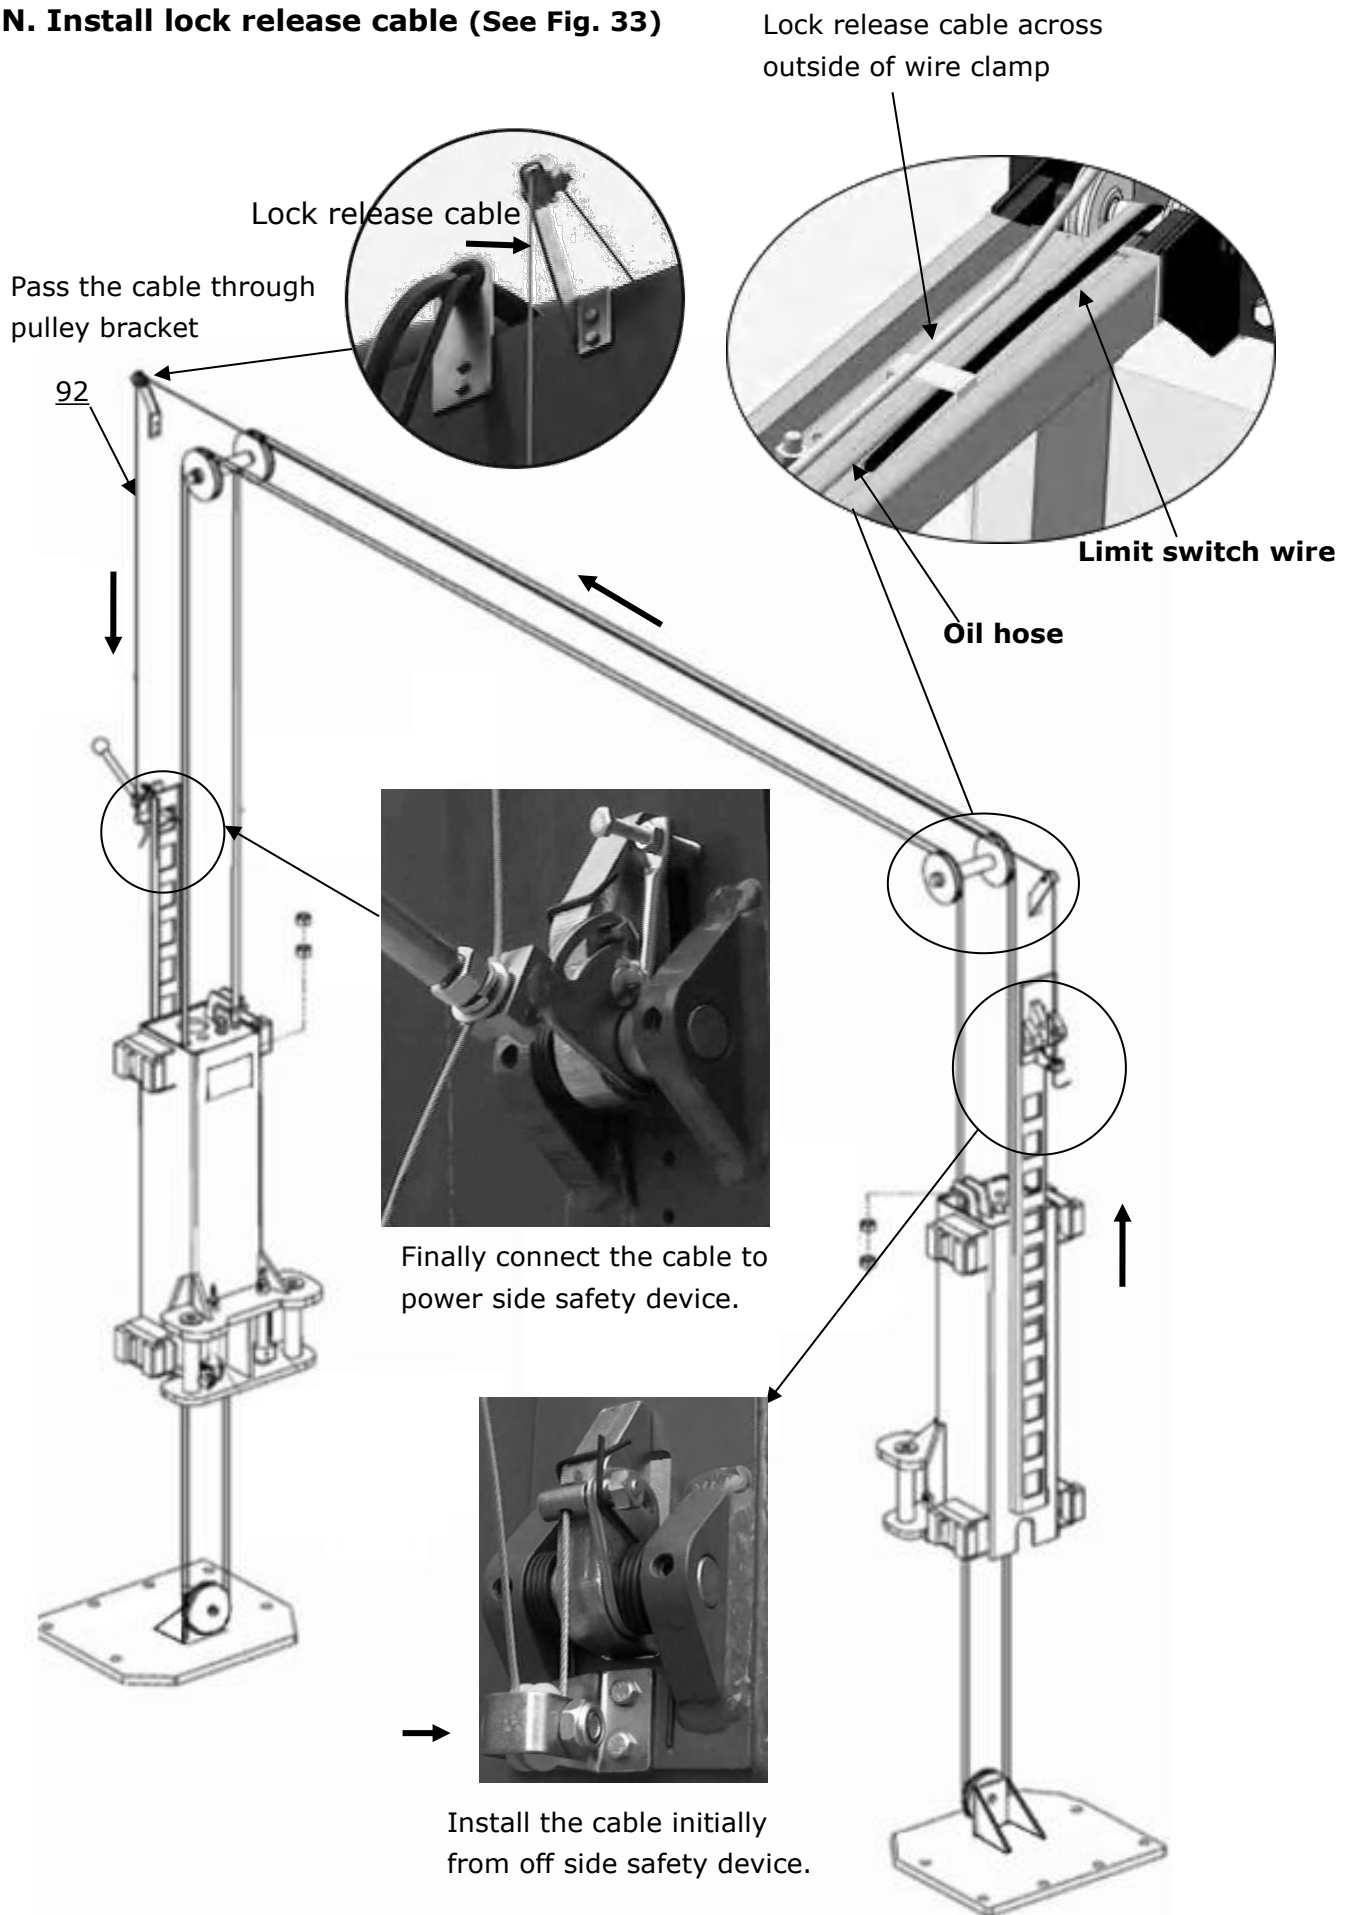

Fig.33
N. Install lock release cable (See Fig. 33)